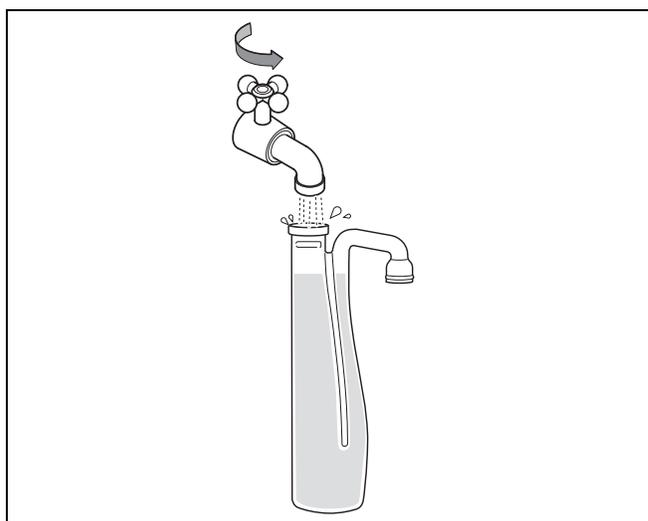

Fig. 51 Filling the condensate trap with water
- Fill the condensate trap with water (fig. 51).